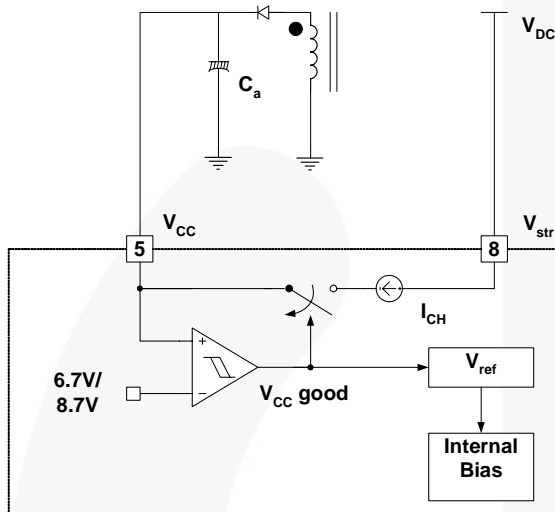

Figure 13. Startup Block
**1. Startup:** At startup, an internal high-voltage current source supplies the internal bias and charges the external capacitor ( $C_a$ ) connected to the  $V_{CC}$  pin, as illustrated in Figure 13. When  $V_{CC}$  reaches 8.7V, the FPS begins switching and the internal high-voltage current source is disabled. The FPS continues normal switching operation and the power is supplied from the auxiliary transformer winding unless  $V_{CC}$  goes below the stop voltage of 6.7V.